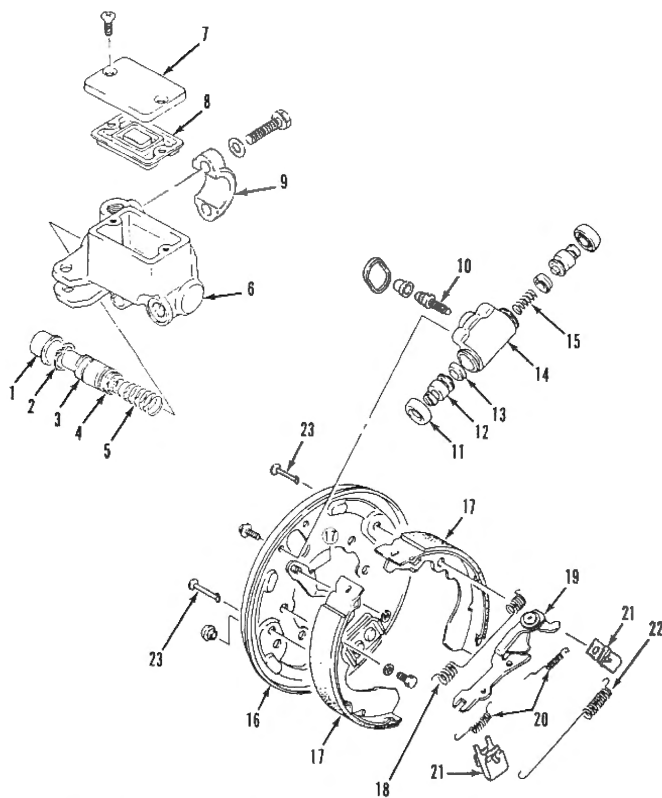

Fig. S13-18—Exploded view of front brake system.
BLEEDING. Any operation that required draining or repair of hydraulic brake components will make it necessary to fill and bleed brake system. Check reservoir fluid level before proceeding. Remove cap (7—Fig. S13-18), diaphragm (8) and fill reservoir with DOT 3 or DOT 4 glycol-based fluid only. Reinstall cap to prevent entrance of dirt or foreign materials. Attach a suitable hose such as vacuum hose to either bleeder screw (10) and submerge other end in a container filled with small amount of brake fluid to prevent air from reentering system. Actuate brake lever several times, then hold brake lever toward handlebar. Open brake bleeder to relieve line pressure allowing fluid and air to flow into container. Close bleed screw before releasing brake
INSPECTION. The brake system should be inspected after the first month or 200 km (125 miles) of operation and every three months or 1000 km (600 miles) thereafter. To inspect front brake drums, shoes and wheel cylinders, suitable support front of vehicle and remove front wheel. Pull brake drum (39—Fig. 13-20) off hub (37). Remove hub (37), if needed, for greater access to brake components. Brake drum should be renewed if inside diameter exceeds 165.7 mm (6.52 in.) on LT-4WD, LT-F4WD and LT-250 models or 180.7 mm (7.11 in.) on LT-F4WDX models. Front brake shoes (17—Fig. S13-18) should be renewed if linings are worn to 1.5 mm (0.06 in.) or less. Wheel cylinders (14) should be overhauled or renewed if brake fluid is observed within boots (11) indicating defective cups or cylinder.
R&R AND OVERHAUL. Refer to Fig. S13-18 for an exploded view of front brake system.
Apply a light coat of grease to brake shoe locating slots in pistons (12) and lower pivot bracket. Apply a light coat of silicone grease to three brake shoe-to-backing plate contact points on each shoe. With reference to Fig. S13-18, install the brake shoes, self-adjuster strut and springs. Secure brake shoes with pins (23) and clips (21). Install the hub, brake drum and wheel. Tighten front axle nut to 85-115 N·m (61.5-83.0 ft.-lbs.) and wheel nut to 45-65 N·m (32.5-47.0 ft.-lbs.).
MASTER CYLINDER. To remove front brake master cylinder (6—Fig. S13-18), remove union cap screw at master cylinder. Brake fluid will remove paint; be careful when removing master cylinder. Remove the two retaining cap screws and withdraw master cylinder. Remove brake lever, reservoir cap (7) and diaphragm (8). Remove dust boot (1) and snap ring (2). Disassemble plunger assembly while noting location and direction of components. Inspect cylinder bore for damage due to corrosion or scoring. Renew complete master cylinder if excessive damage is evident. Superficial damage may be removed using a suitable cylinder hone. After honing, rinse cylinder with clean brake fluid. Shake out excess fluid but do not wipe dry. Using a shop towel or rag to